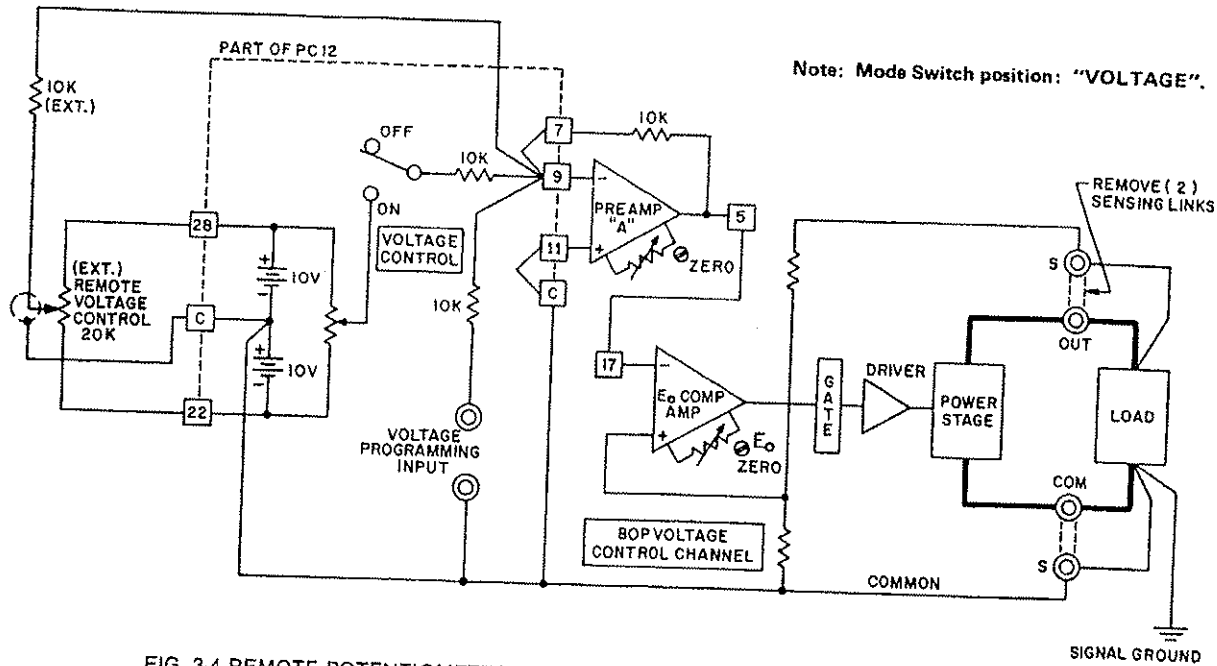

FIG. 3-4 REMOTE POTENTIOMETER CONTROL OF THE BOP D-C OUTPUT VOLTAGE
3-12 As shown in FIG. 3-4, this control method can readily be performed remotely, by setting the VOLTAGE CONTROL SWITCH to the OFF position and connecting an external REMOTE VOLTAGE CONTROL as indicated in FIG. 3-4.
- 3-11 **REMOTE D-C OUTPUT VOLTAGE CONTROL BY RESISTANCE.** As seen in FIG. 3-4, and as described in a previous paragraph (Paragraph 3-6) the BOP d-c output potential can be controlled within its specified range by means of the VOLTAGE CONTROL, with the VOLTAGE CONTROL SWITCH in the ON position. PREAMP "A" with the built-in feedback and input resistors, has a gain of one and the fixed gain of all BOP models is designed so that a d-c input signal of zero to (\pm)10 volt will control the BOP output through its specified range. In the local (front panel) control mode, the d-c control potential is applied via the VOLTAGE CONTROL. In the remote control mode, a similar control circuit, located external to the BOP is substituted for the internal control elements.